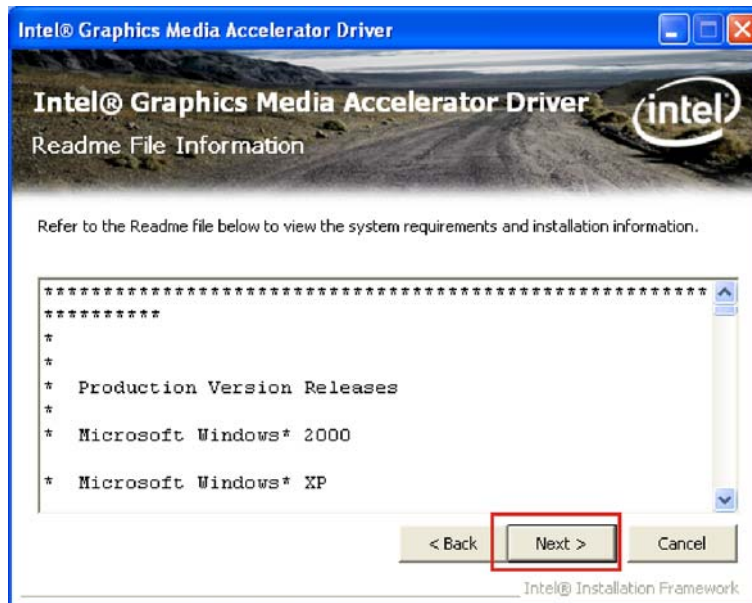

Figure 7-13: VGA Driver Read Me File
Step 11: The Readme file in **Figure 7-13** appears.